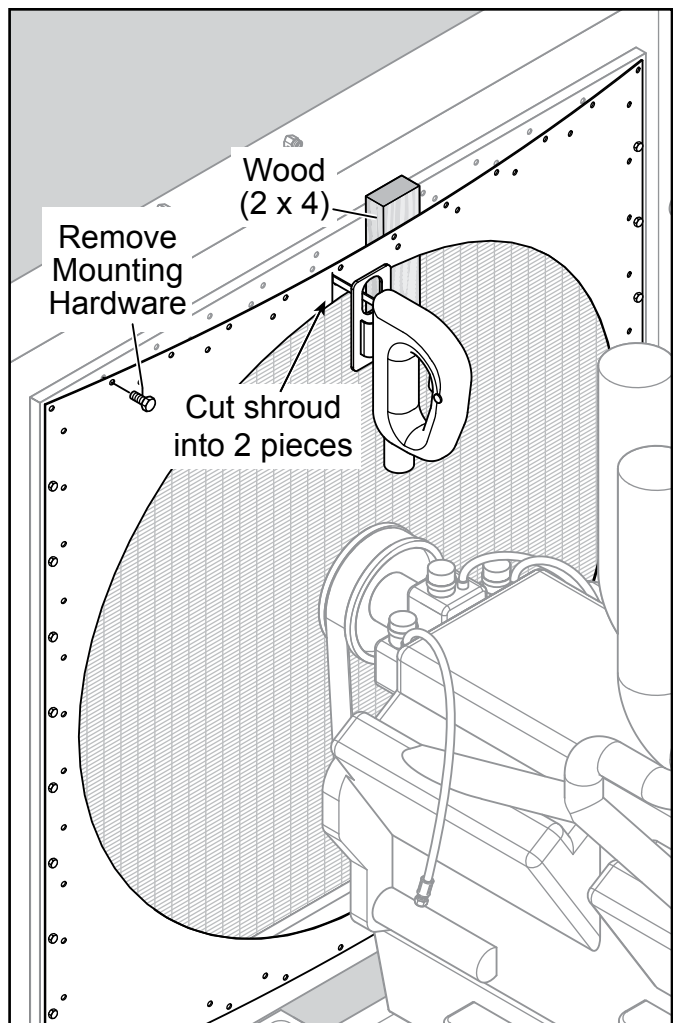

Figure 9. Shroud Removal
1. Remove the mounting hardware securing the shroud to the frame at the top and bottom. Set hardware aside as it will be used in the new shroud installation. See Figure 9.
2. Cut the shroud into 2 pieces with a jigsaw at the top and bottom center. Make sure there is enough distance between the shroud and the radiator fins while cutting to prevent hitting the radiator fins with the saw. A piece of wood (2 x 4) can be lodged between the radiator fins and the shroud to create space between them. See Figure 9.